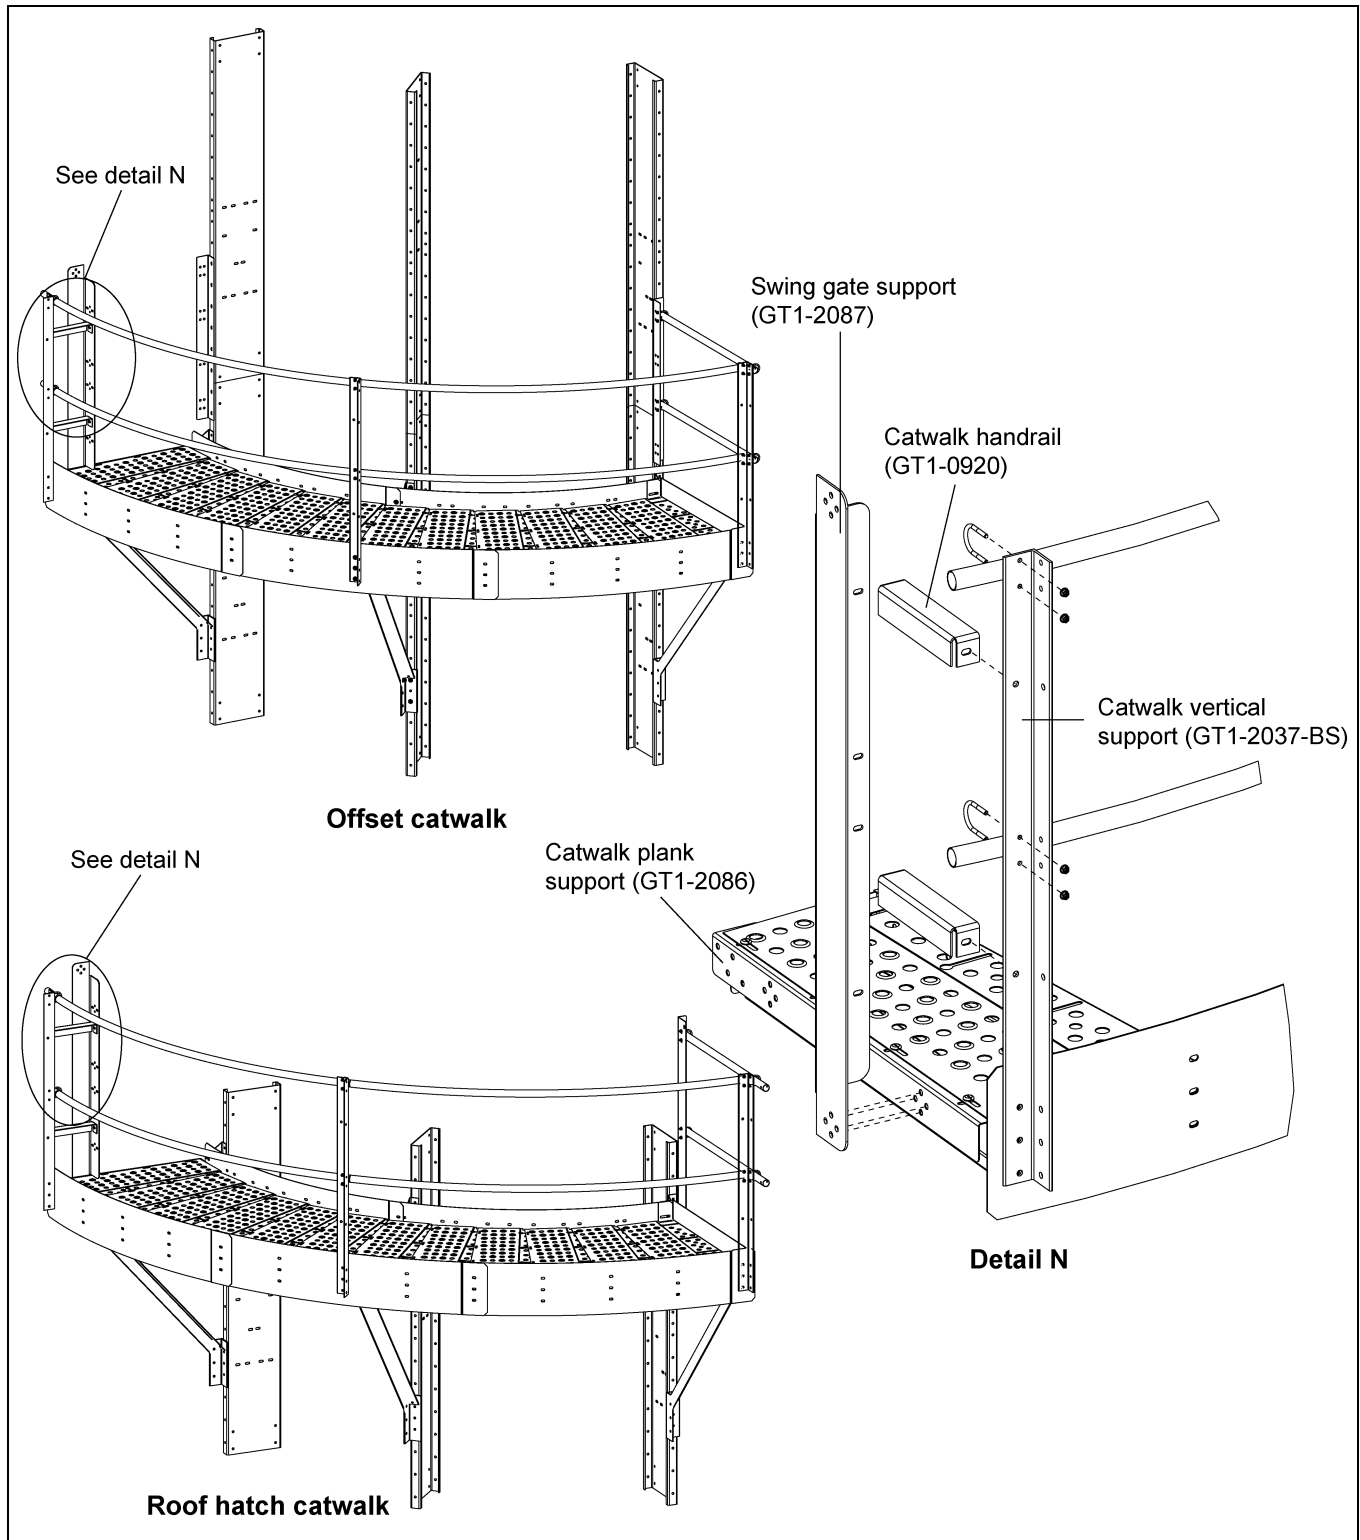
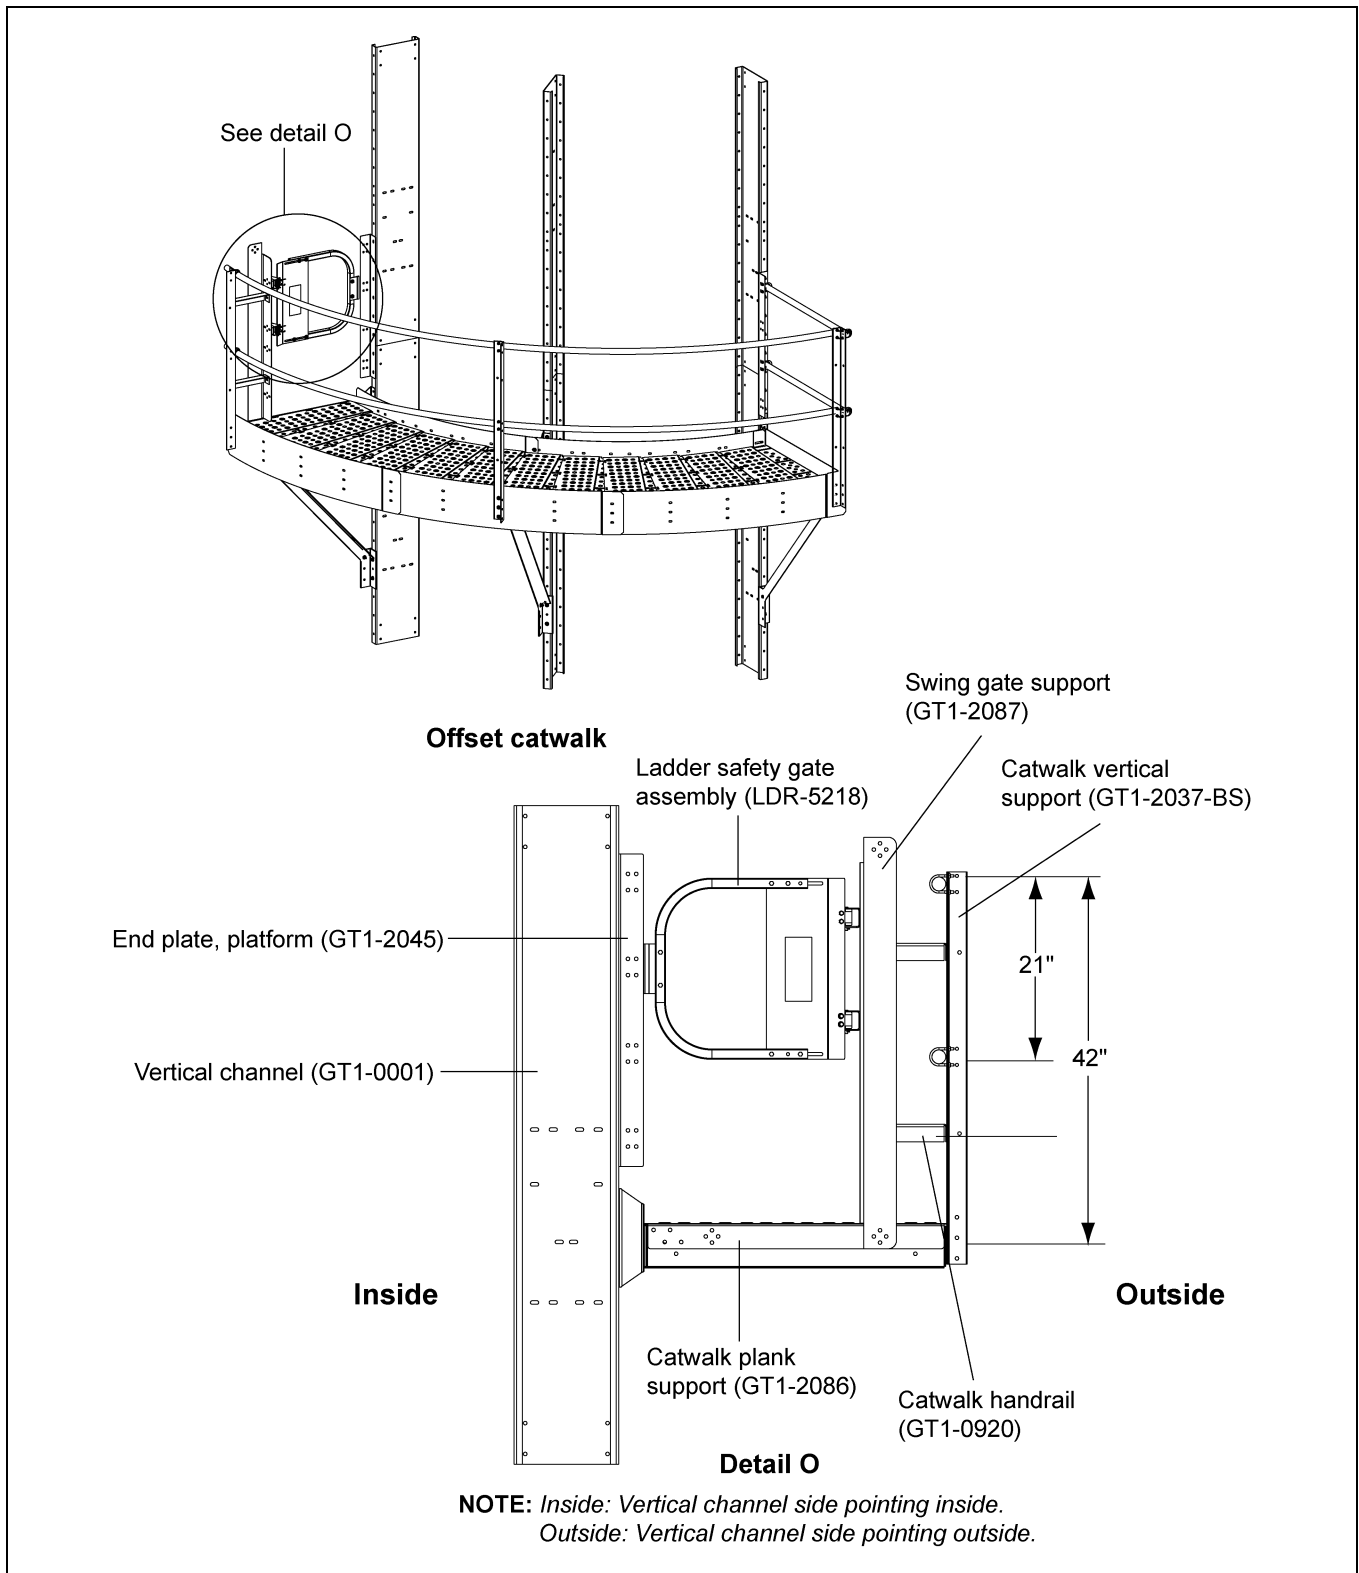

Figure 6X Installing Safety Gate (LDR-5218) to Offset and Roof Hatch Catwalks
Figure 6Y Offset Ladder Safety Gate Assembly to Swing Gate Support (GT1-2087)
2. Install two (2) catwalk handrails (GT1-0920) between the swing gate support (GT1-2087) and catwalk vertical support (GT1-2037-BS). (See Figure 6X below and Figure 6Y on Page 61.)
- Install the ladder safety gate assembly (LDR-5218) to the swing gate support (GT1-2087) using 3/8"-16 x 1" JS grade 8 or grade 8.2 bolts (S-7485) and 3/8"-16 ZN grade 5 nuts (S-968). The distance between the plank and handrail is 42". (See Figure 6Y.)